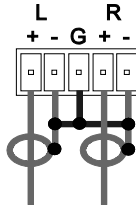

Figure 5: Connecting the Unbalanced Stereo Audio Input
- An unbalanced stereo audio input connection, see Figure 5